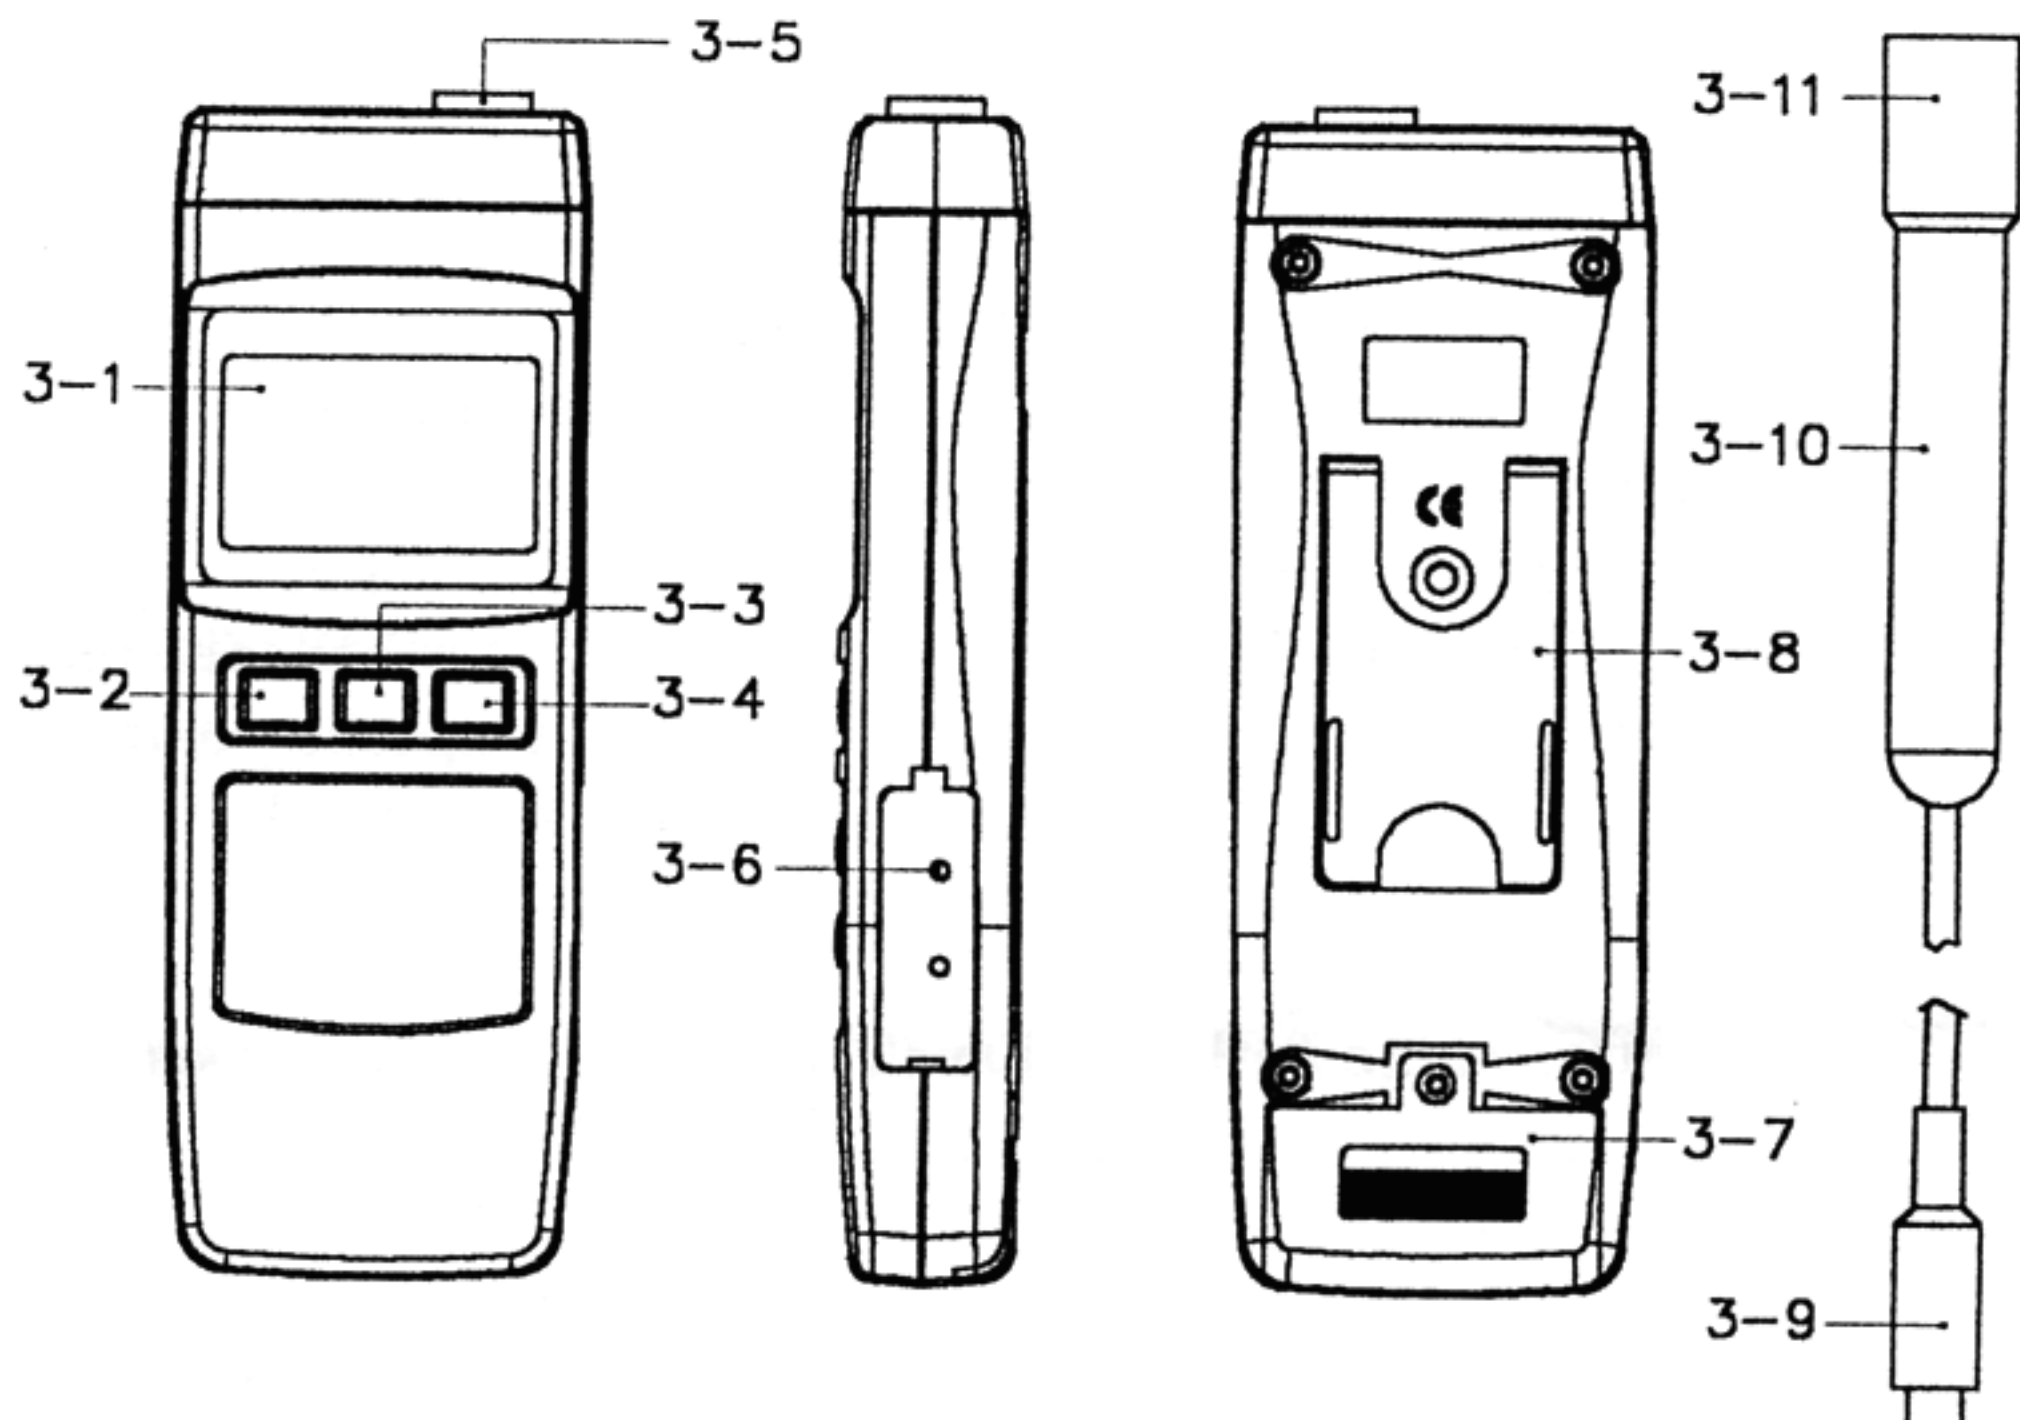

Fig. 1
- 1) Connect the " Probe Plug " (3–9, Fig. 1) to the " Probe Input Socket " (3–5, Fig. 1).
- 2) Power on the instrument by pressing the " Power ON Button " (3–2, Fig. 1).
- 3) a. Hold the " Probe Handle " (3–10, Fig. 1) by hand & immerse the let the " Probe Head " (3–11, Fig. 1) wholly into the measured solution.
- 5) Press the " Hold Button " (3–4, Fig. 1) will hold the measured value & the LCD will indicate a " HOLD " symbol on the display during the measurement.
- 2) a. Hold the " Probe Handle " (3-10, Fig. 1) by hand & immerse the let the " Probe Head " (3-11, Fig. 1) wholly into the measured solution.
c. Adjust the " Calibration Adjust VR " (3-6, Fig. 1) until display show the value same as 8.00 exactly.
- 2) Slide the " Battery Cover " (3-7, Fig. 1) away from the instrument and remove the battery.